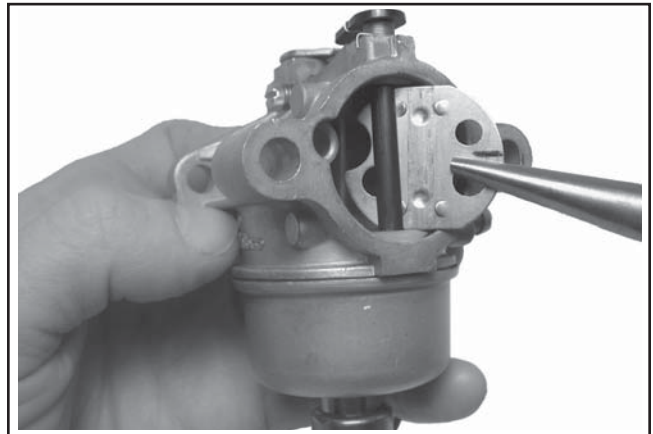

Figure 5-8. Removing Choke Plate.
2. The choke plate is inserted into a slot in the choke shaft. Grasp the choke plate with pliers, and pull it out of the slot. See Figure 5-8.